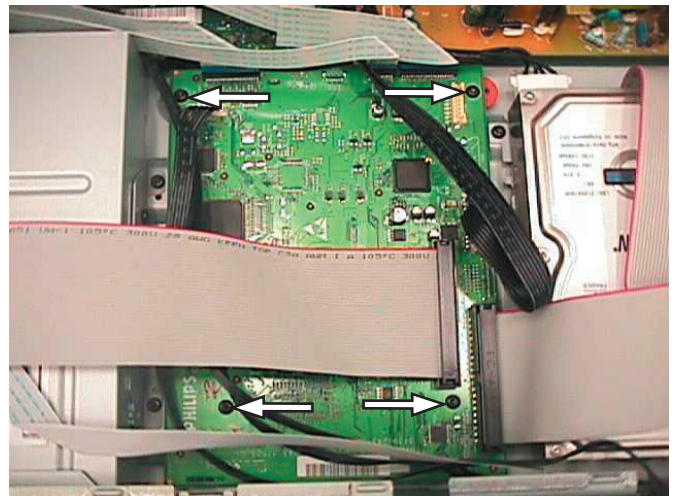

Figure 4-5
- 1) Remove 4 screws to loosen the Digital Board 1001 as shown in Figure 4-5.